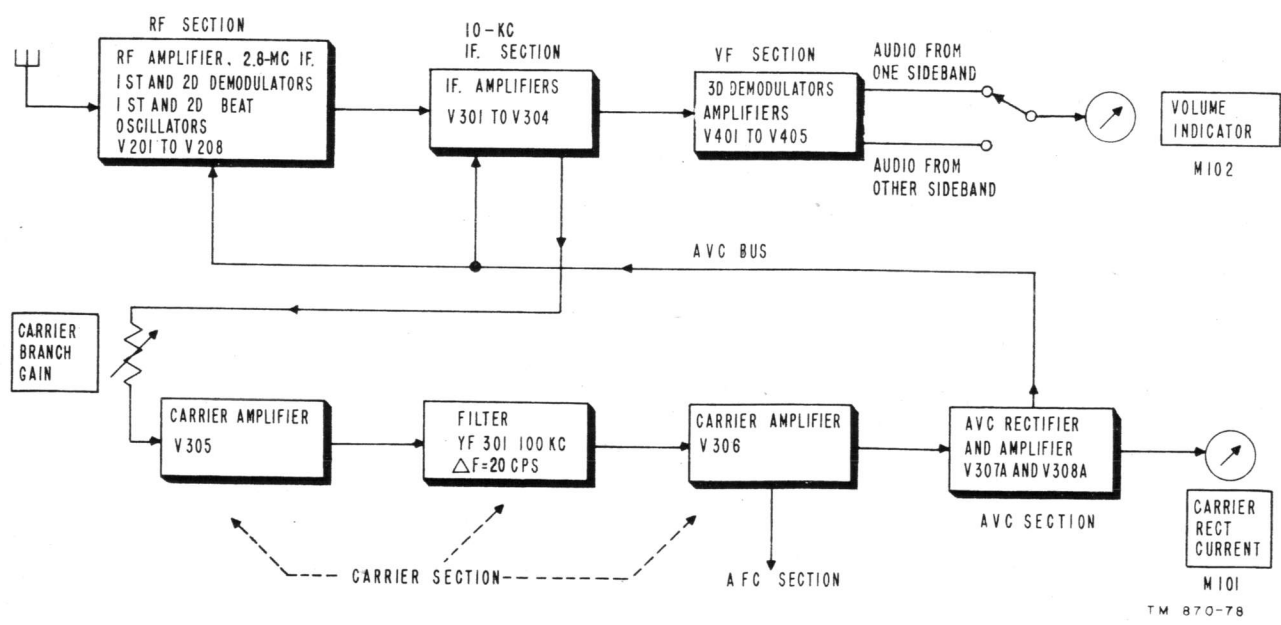

Figure 22. Simplified block diagram, signal paths to meters M101 and M102.
a. To understand the operation of Radio Receiver R-369/FRC-10, it is necessary first to understand the function of each front panel control. Operating personnel should, therefore, review the front panel control function list (par. 21). The operation of the CARRIER BRANCH GAIN control and its effect on the VOLUME INDICATOR and CARRIER RECT CURRENT meters, however, are unusual and require further explanation. Refer to the simplified block diagram (fig. 22) of the signal paths to the CARRIER RECT CURRENT (M101) and VOLUME INDICATOR (M102) meters.
e. An important point to remember in operating and tuning the receiver is the effect of the carrier section on the afc circuits, not shown in figure 22. Since the filter (YF301) has a very narrow pass-band, the receiver may be tuned incorrectly by passing over the weak carrier and tuning to one of the strong sidebands. This error appears as a change in pitch, or complete garbling of speech and radioteletype signals. When tuning to a signal, the VOLUME INDICATOR meter reading will rise before the CARRIER RECT CURRENT meter reading does. This is caused by the extremely narrow band pass (20 cps) of the carrier branch section of the receiver (100 kc \pm 10 cps) as compared to the 5,900-cps band pass (100 to 6,000 cps) of the vf sections. For further information on the operation of these circuits, refer to paragraphs 62 and 63.